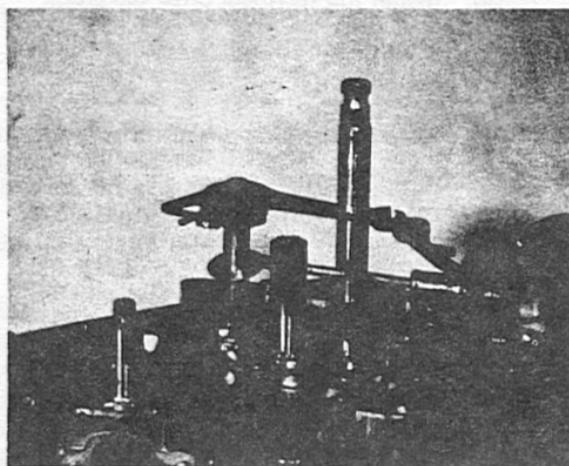

Fig. 15
12. Install the spacer on the shift arm shaft and position the shift arm shaft assembly into the crankcase. (Figure 15)